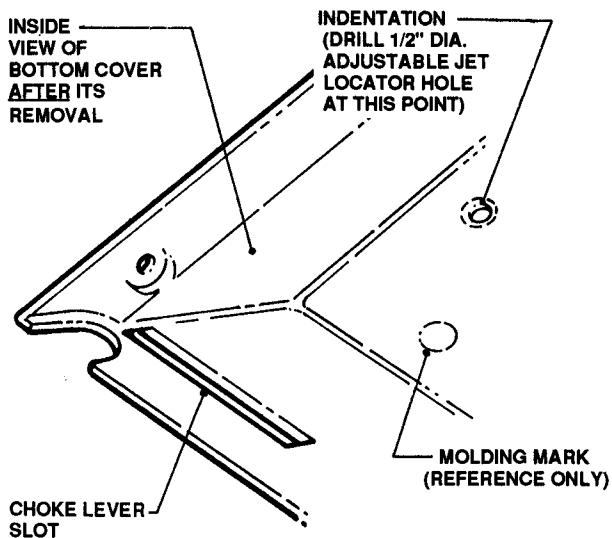

FIGURE 9.1
- B. Drill a 1/2" diameter hole thru Bottom Cover at location shown in Figure 9.1.